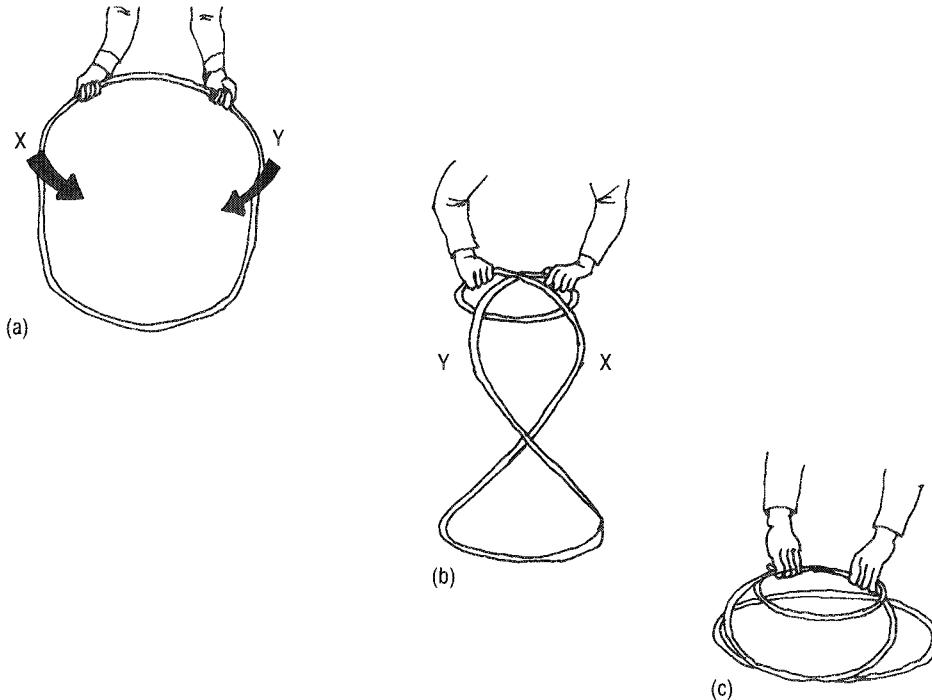

Fig. 2.26 Folding a blade into three loops.
3. As X and Y pass in the middle let the section of blade between your hands fall backwards, in front of your body (**Fig. 2.26(b)**).
4. Gently lower the blade to the floor (**Fig. 2.26(c)**).